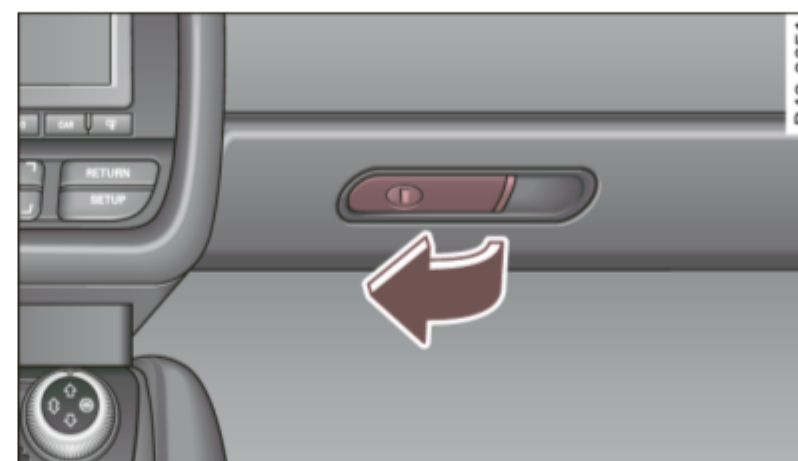

Fig. 59 Glove compartment
- Pull the handle ⇒ fig. 59 in the direction of the arrow, push down lid to the fully open position.